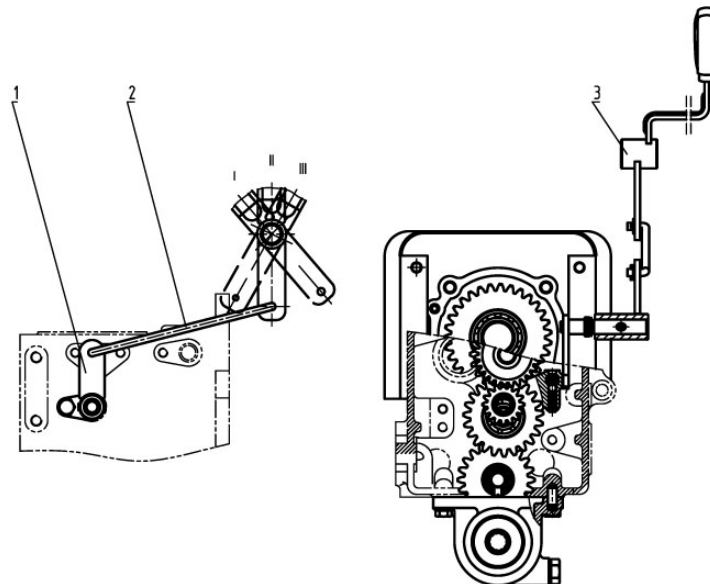

Figure 6-6 Power output adjustment
The position II shown in Figure 6-6 is the power output neutral gear. When shifting to the I position by pushing and pulling the power output control lever (3) as instructed, the rear PTO of 540r/min and the middle PTO are engaged; when the shift operation is to the III position, the rear is engaged 1000r/min of PTO (see Figure 6-6).